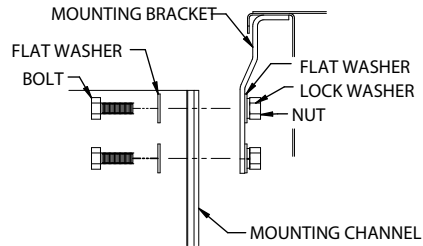

Figure 19 – Attaching Mounting Channel to Mounting Bracket
2. At each hole, attach the mounting channel to the bracket using 3/8" (10 mm) hardware as shown in Figure 19.